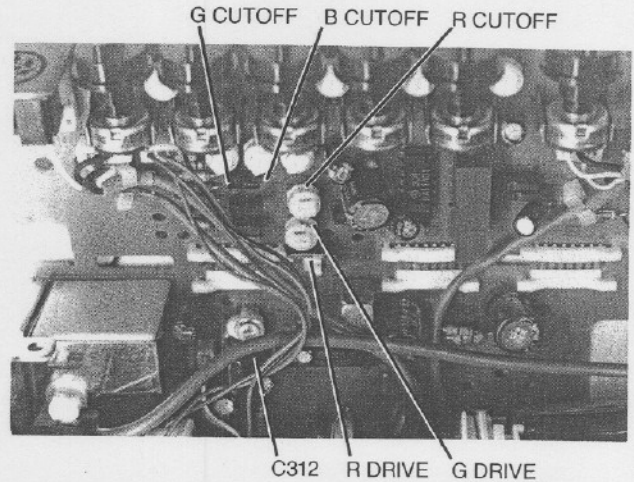

Figure 3-13. Gray-scale tracking and color synchronization controls
turning Green Cutoff, R706, fully CW and Red and Blue Cutoff, R705 and R704, fully CCW. Refer to Figure 3-13.
3. Turn Red, Blue and Green Cutoff controls fully CCW. Refer to Figure 3-13.
3. Use a non-metallic alignment tool and turn trimmer capacitor C312 (See Figure 3-13) so that bands of color in the color bars are minimized and color is continuous from top to bottom and changes slowly.